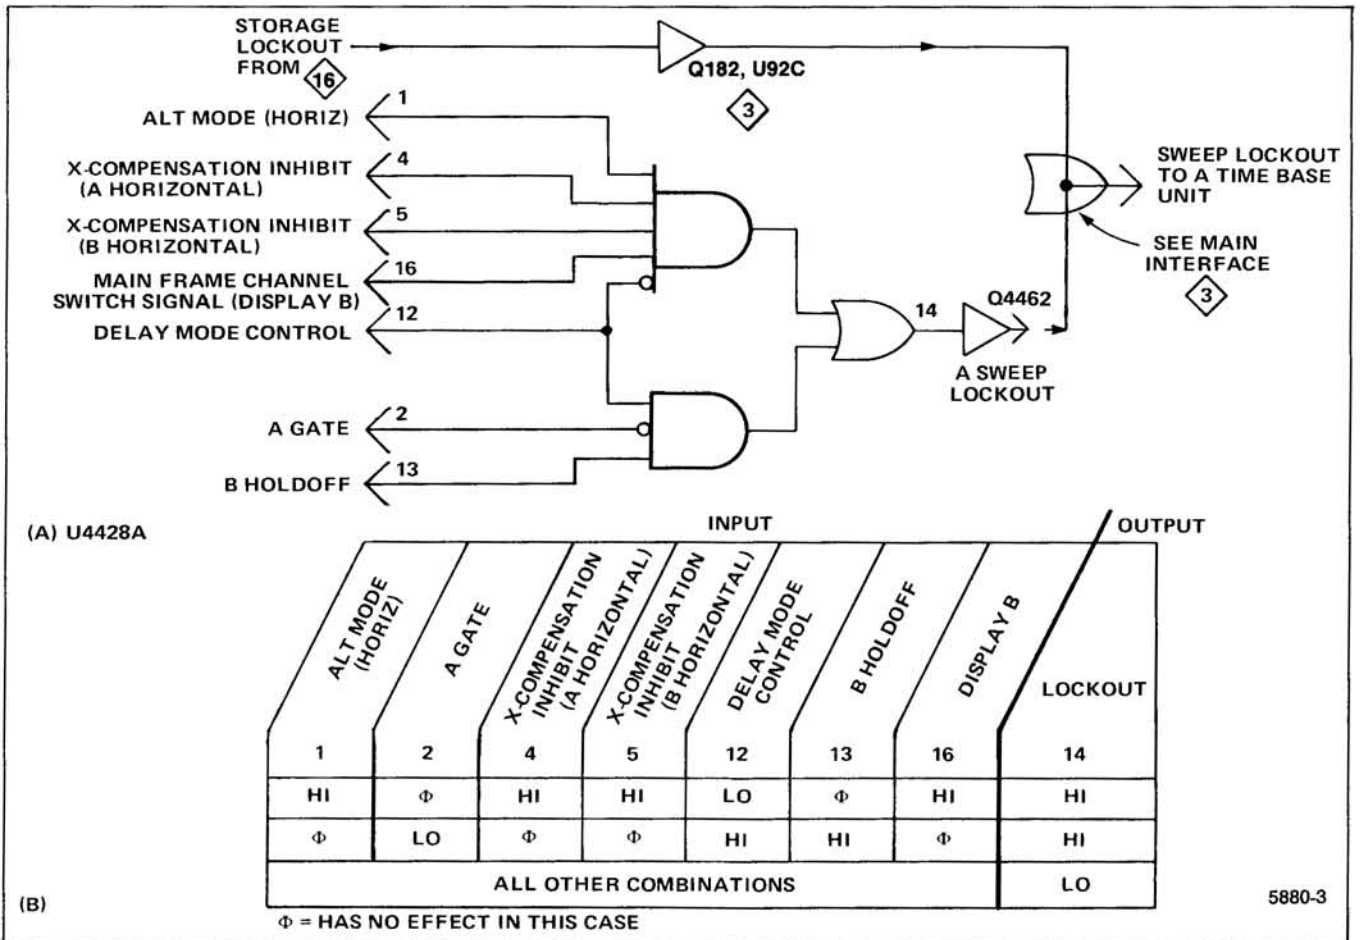

Figure 4-5. (A) Logic diagram for A Sweep Lockout Stage; (B) Table of input/output combinations.
As shown by the logic diagram and input/output table of Figure 4-5, only two combinations of input conditions to U4428 produce an A Sweep Lockout level (HI).